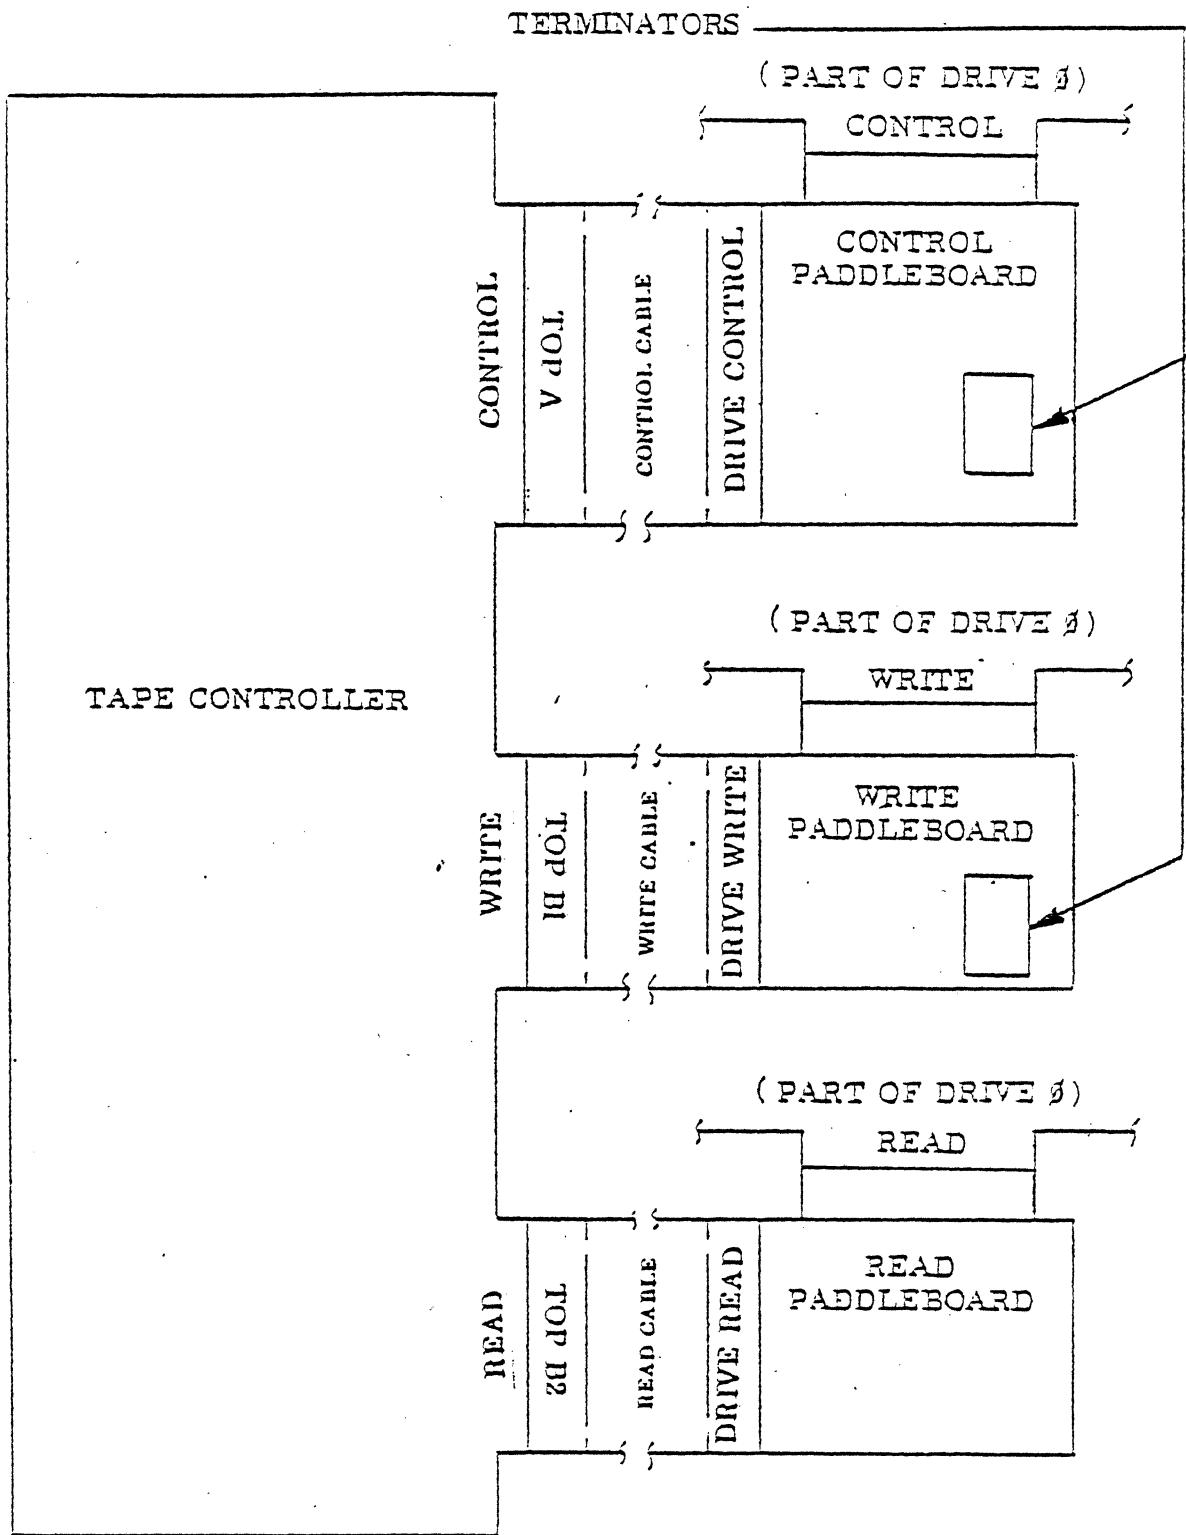

Figure 2-8. Single Tape Drive Connections
2.28 TAPE DRIVE INTERCONNECTIONS. Locate a set of three ribbon cables for each drive (one set is connected to the controller). Check that each connector has its key in place and connect the cables as shown in Table 2-7 and Figures 2-8 and 2-9.